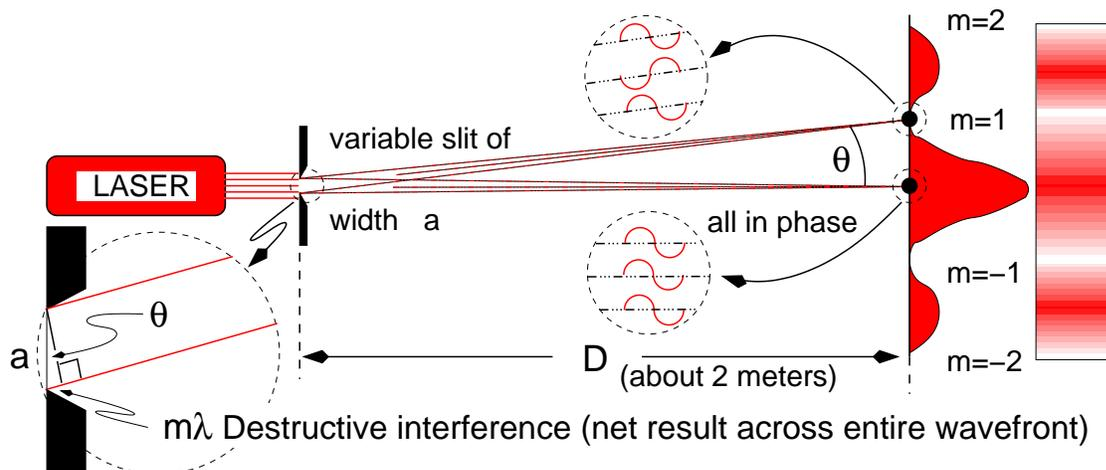

Figure 1: Schematic of single slit diffraction
1. Mount the laser and variable width slit on the optical bench as shown in Fig. 1. Observe the pattern on the supplied white screen and qualitatively explain why in your lab book that the first *minimum* occurs as shown in Fig. 1 at $m = 1$.